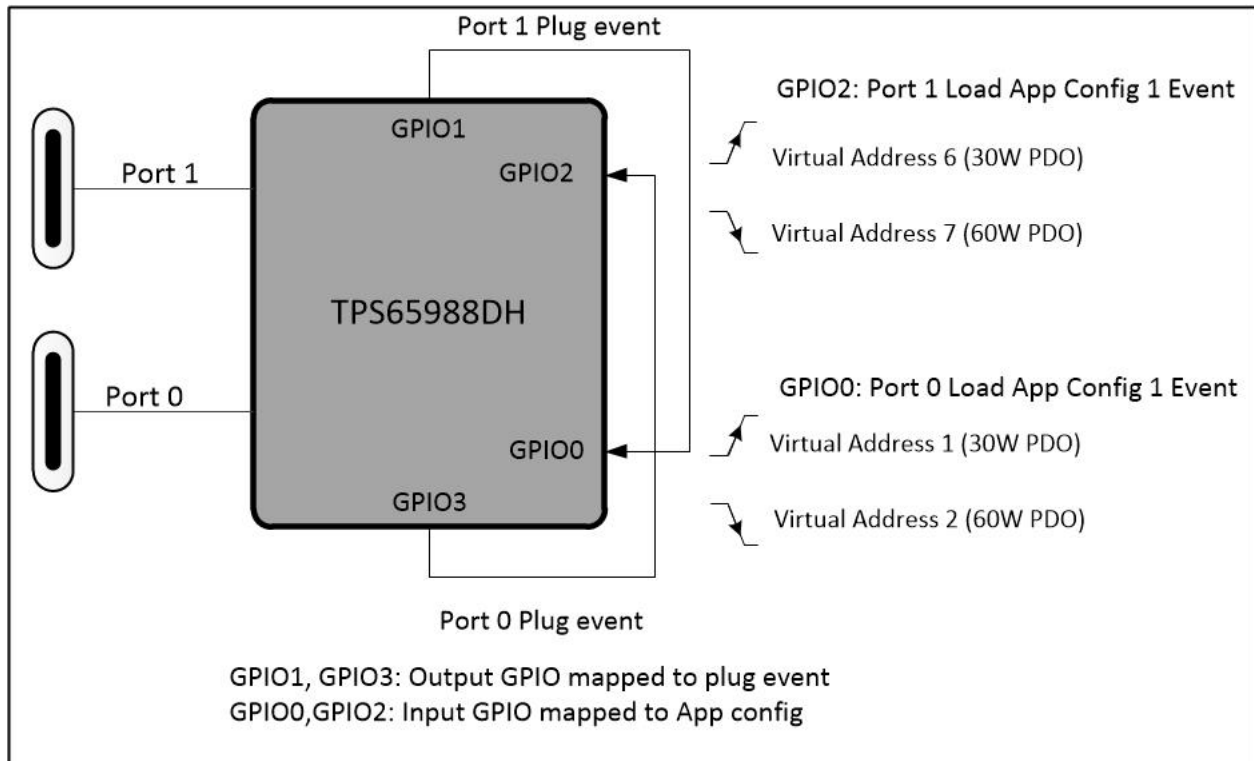
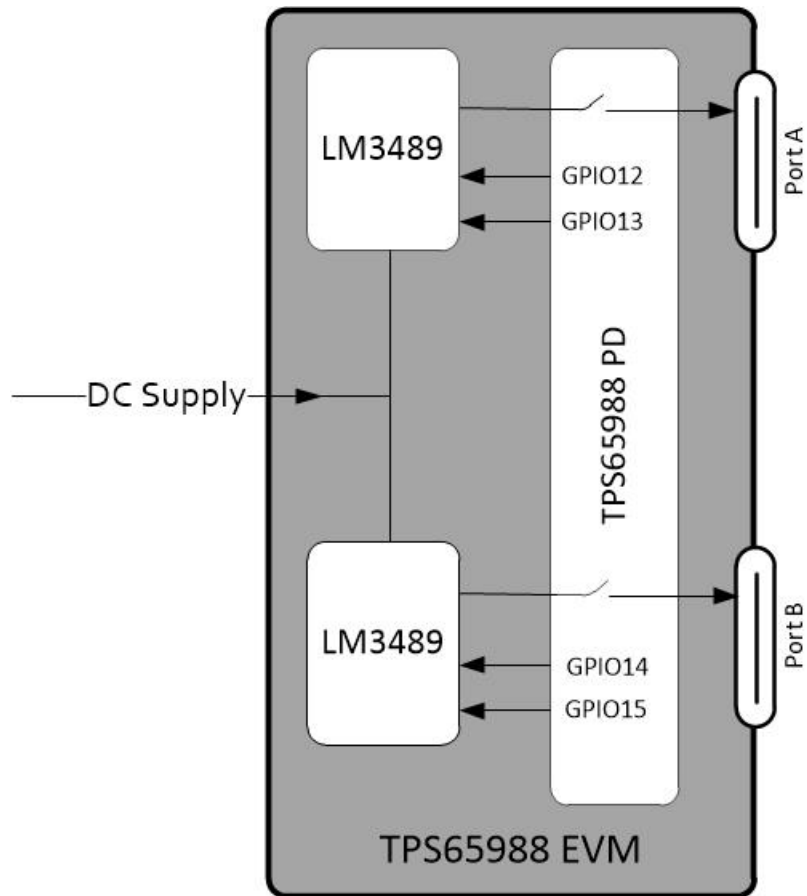

Figure 2-6. GPIO Events Usage in Dual Port Power Socket Design with Power Balancing
Figure 2-13. EVM Block Diagram
Figure 2-6 shows pictorial representation of Events and GPIOs used in the Dual port power socket design with power balancing.
2. As shown in Figure 2-6, the application requires two sets of power profiles per port: corresponding 30W and 60W PDOs. In this step, generate these configurations and map them to virtual addresses.
The control logic to balance port power (as shown in Figure 2-6) can be tested on TPS65988EVM using the project file. TPS65988EVM has two Buck regulators (LM3489) corresponding to Port A and Port B as shown in Figure 2-13. The GPIO pins GPIO12 and GPIO13 are mapped to output GPIO events *Port 0 Source PDO Negotiated TT1* and *Port 0 Source PDO Negotiated TT2* events, respectively. These GPIOs toggle based on the negotiated PDO and set the feedback voltage of LM3489 accordingly, to generate the negotiated PDO voltage. Similarly, voltage on Port B (Port 1) is controlled by GPIO14 and GPIO15. In the actual application, Buck regulators shall be replaced by ACDC and DCDC regulators as shown in Figure 2-13. TPS65988DH includes three I2C ports out of which one I2C port can work as both master and slave, one I2C port can work as a I2C master only and one can work as a I2C slave only. The I2C masters allow the PD controller to control various kinds of slaves directly based on events inside the PD controller. I2C master events can be used to configure ACDC/DCDC with I2C interface.